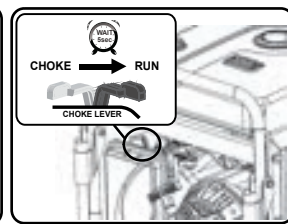

Fig 12
- Let engine run for several seconds and then gradually, as engine warms up, slide the choke lever towards the "RUN" position until the choke is fully engaged to the "RUN" position. (See fig 12)